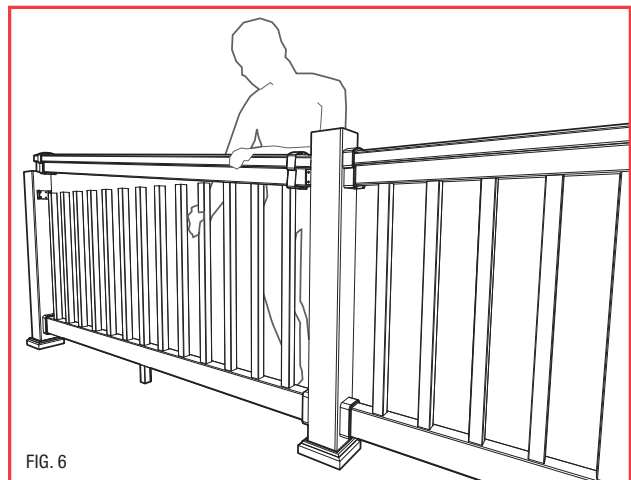

FIG. 6
9. Slide top bracket covers over both ends of the top rail. Align top rail over the balusters and insert balusters one at a time until the top rail is fully installed. (Fig. 6)